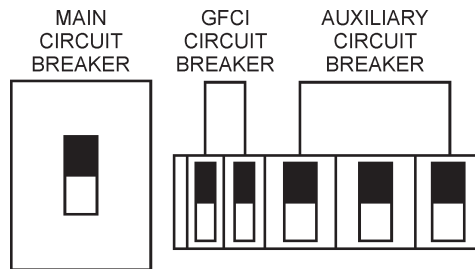

Figure 49. Main, Aux. and GFCI Circuit Breakers (ON)
13. Place the **main, GFCI, and aux.** circuit breakers in the **ON** position (Figure 49).